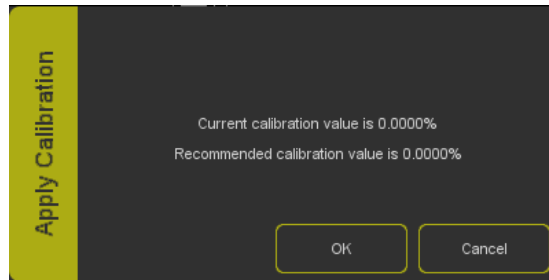

Figure 14.4: Apply calibration value
5. Apply the recommended calibration value in the dialog (figure 14.4)